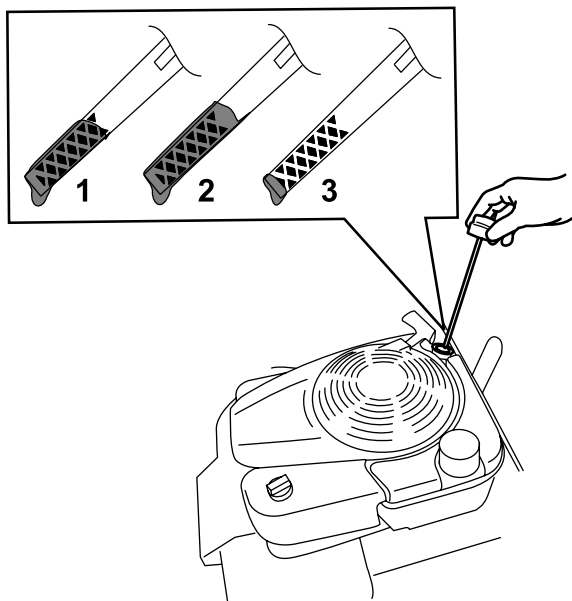

Figure 30
3. Remove the dipstick by rotating the cap counterclockwise and pulling it out (Figure 30).
10. Read the oil level on the dipstick (Figure 30).